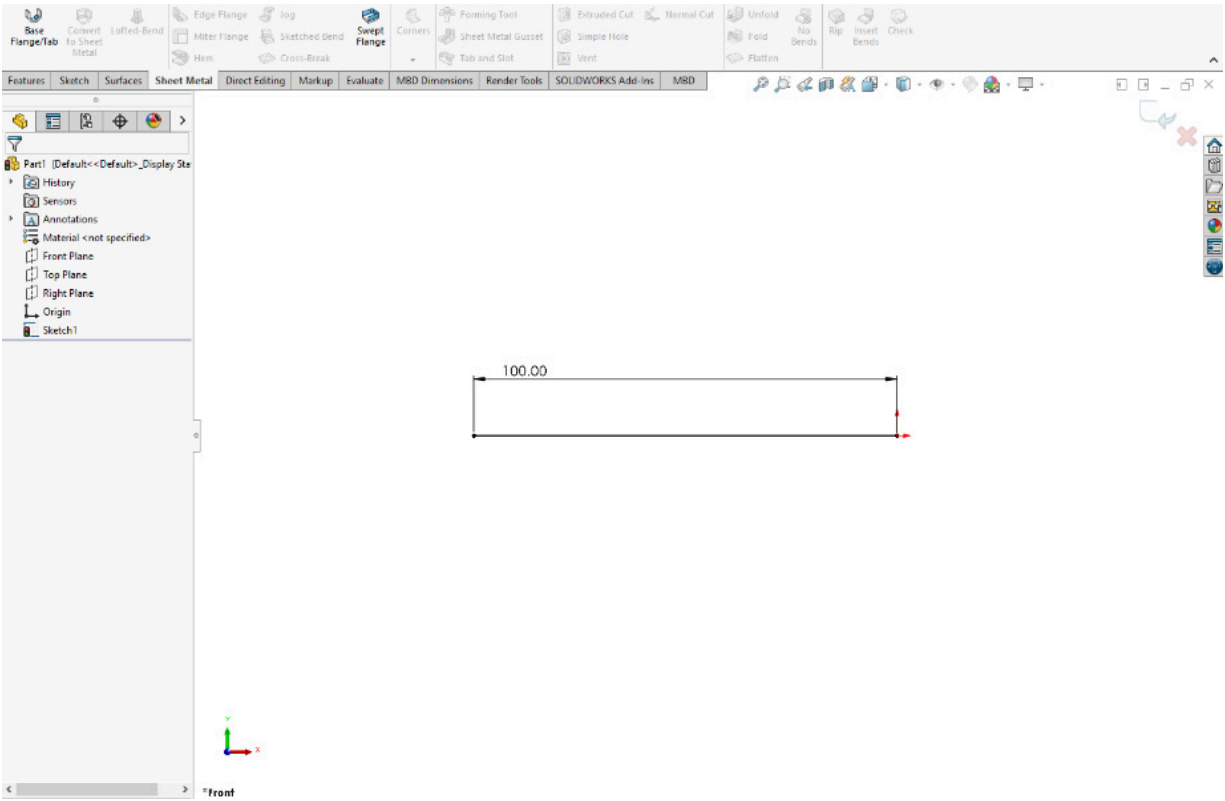

Figure 1.19: Using a single-line sketch to create a Single Open Contour Base Flange
2. Sketch the **Base Flange**. It can be easiest to think of the **Single Open Contour** option as a side view or cross-section view of the flange. For the first example, try a single horizontal line, **100mm** long, using the **Line** tool (see *Figure 1.19*).